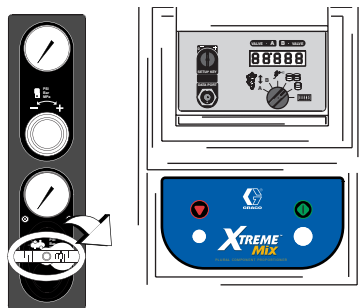

FIG. 22
1. Close main air shutoff valve on air supply line and unit. FIG. 22.